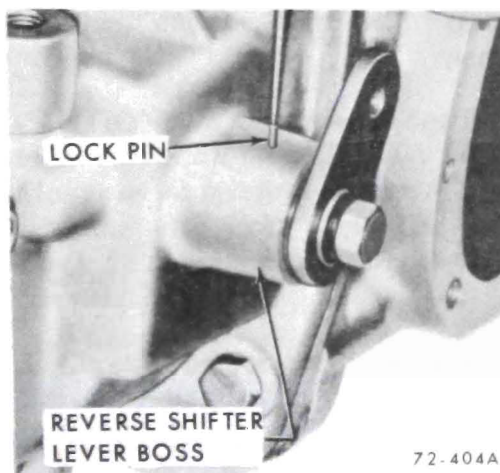

Figure 72-404 - Removing Shifter Shaft Lock Pin
4. With transmission gears in neutral, drive lock pin from bottom side of reverse shifter lever boss and pull shaft out about 1/8". This disengages the reverse shift fork from reverse gear. See Figure 72-404.